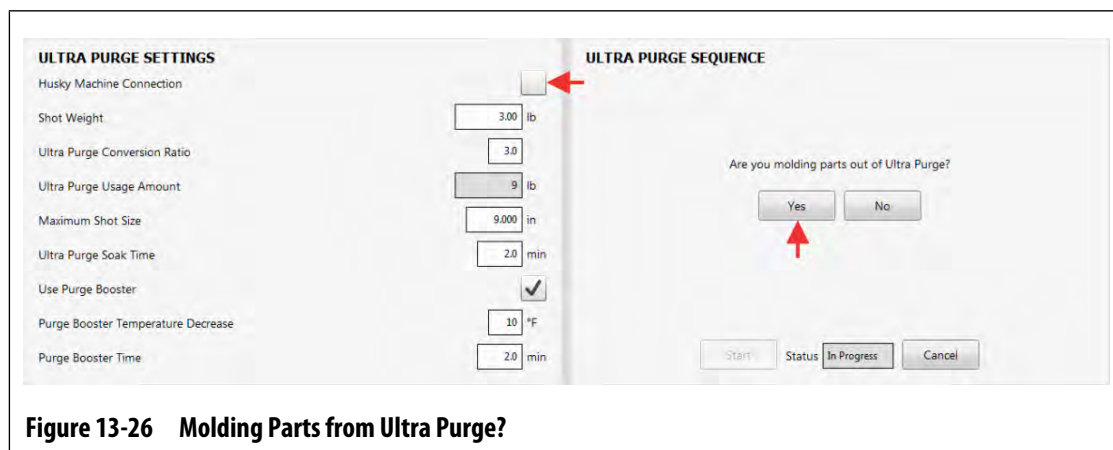

Figure 13-26 Molding Parts from Ultra Purge?
- Make sure that the Husky Machine Connection checkbox is not checked (refer to Figure 13-26).